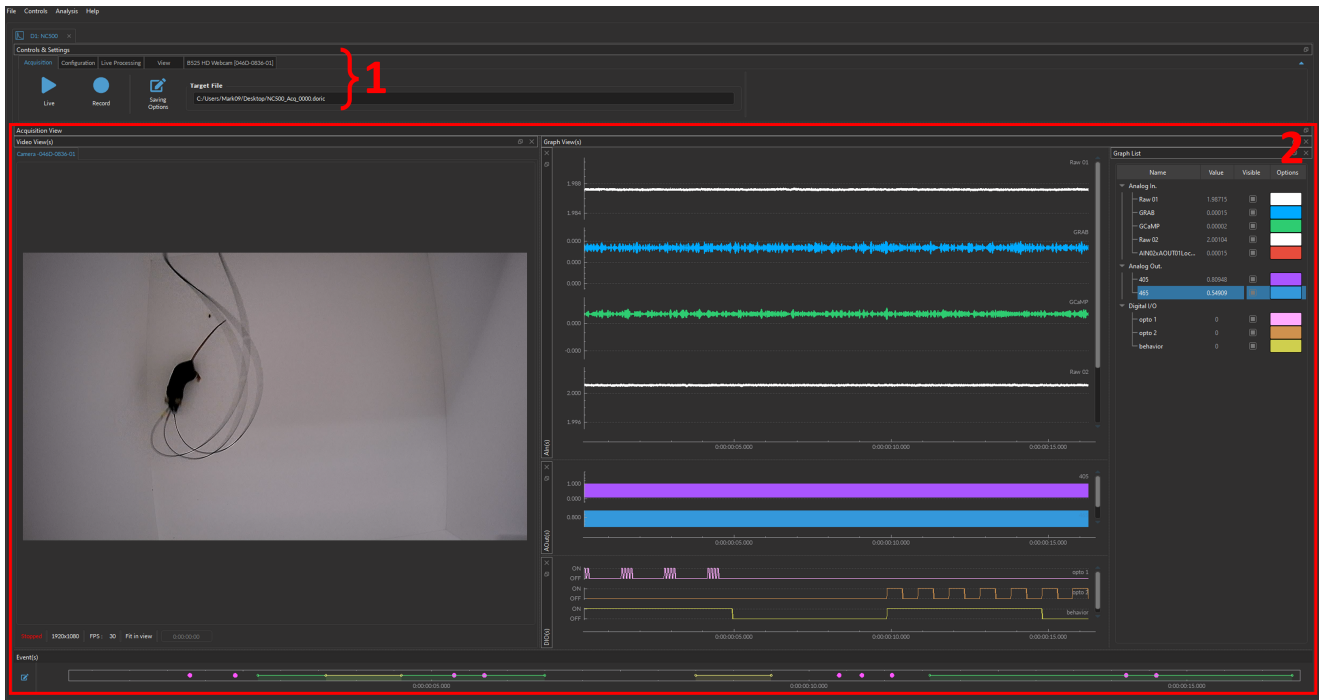

Figure 16.4: NC500 interface
The **NC500** interface is split into two main sections (Fig. 16.4):
1. The **Control & Settings** tabs (Fig. 16.4, 1) contains all the functions and tools of the NC500 interface. The **Controls & Settings** are split into three tabs, which will be detailed in the following sections:
2. The **View** section (Fig. 16.4, 2) displays information corresponding to each **Control & Settings** tab:
- a) The **Acquisition View** (Fig. 16.4, 2) visualizes the input and output traces and/or images in real-time as data is collected, and can only be accessed by selecting the **Acquisition** tab.